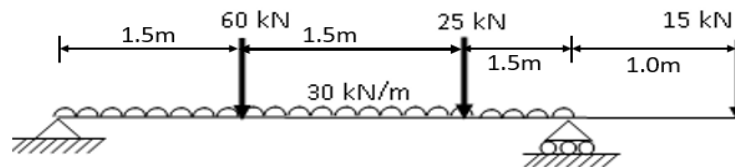

Fig.2
3. Draw the shear force and bending moment diagrams for a beam supported and loaded as shown in Fig.2 [12 M]